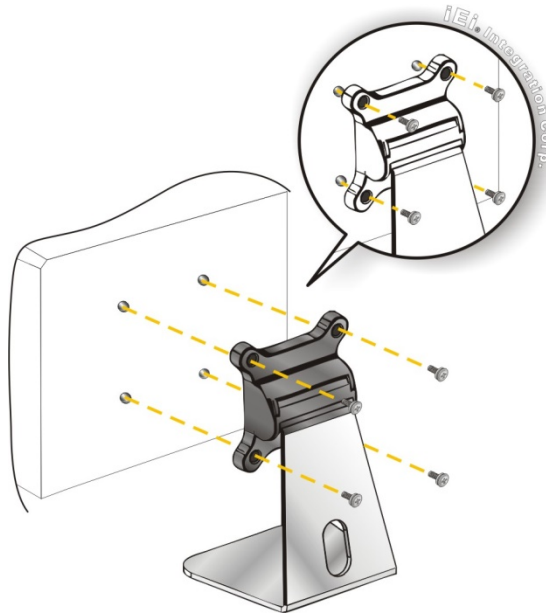

Figure 3-44: Monitor Stand Mounting
Step 2: Secure the monitor to the stand with the supplied retention screws (Figure 3-44).